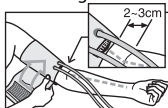

Fig. 5
3. Wrap the cuff around your upper arm so that the bottom of the cuff is approximately 2-3 cm above your elbow. The sign "ARTERY" should be over the arm artery as shown in the fig. 5.